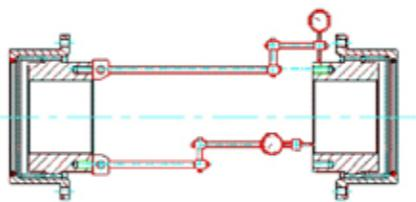
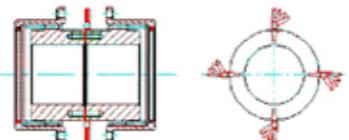
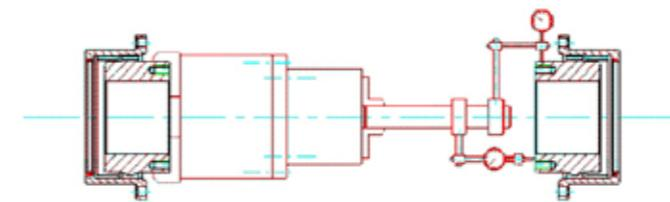

fig. 8
fig. 9
fig. 10
- To ensure optimum lifetime of EPR gear coupling is necessary to perform the alignment of the shafts in a scrupulous way. To perform the alignment, use a comparator fixed on one of the two hubs and make it rotate on the other hub (fig.8), reading the value divided by two gives the value of the parallel misalignment. The angular misalignment must be checked with a comparator fixed on a hub and made to rotate on the facade of the other hub (fig.8), or with controlled thickness gauge in at least three position at 120°C (fig.9). In case of installation of gear couplings complete with extensions run laser alignment, if you can not use the laser, follow the instructions according to the figure 10.